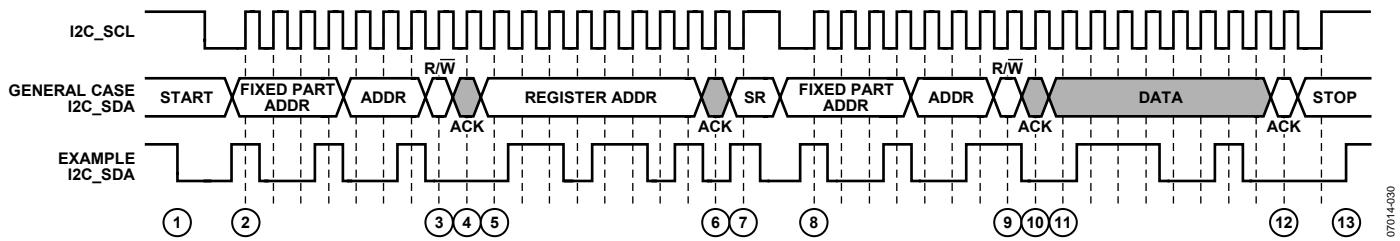

Figure 30. I²C Read Diagram
To read data from the AD8197A register set, an I²C master (such as a microcontroller) needs to send the appropriate control signals to the AD8197A slave device. The signals are controlled by the I²C master, unless otherwise specified. For a diagram of the procedure, see Figure 30. The steps for a read procedure are as follows:
9. Send the read indicator bit (1).
- 13a. Send a stop condition (while holding the I²C_SCL line high, pull the SDA line high) and release control of the bus to end the transaction (shown in Figure 30).